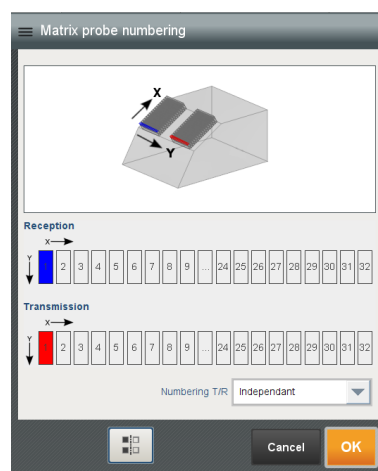

Figure 69: Dual linear probe numbering
Press the button **Numbering** (4) to open the assistant (Figure 69). A sketch showing the two-scale axis and the top-left element highlighted eases probe definition.